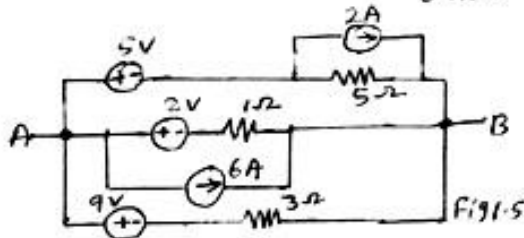

Fig 1.5
9. Calculate the power dissipated in 3Ω resistor in fig.1.5. using mesh current analysis.